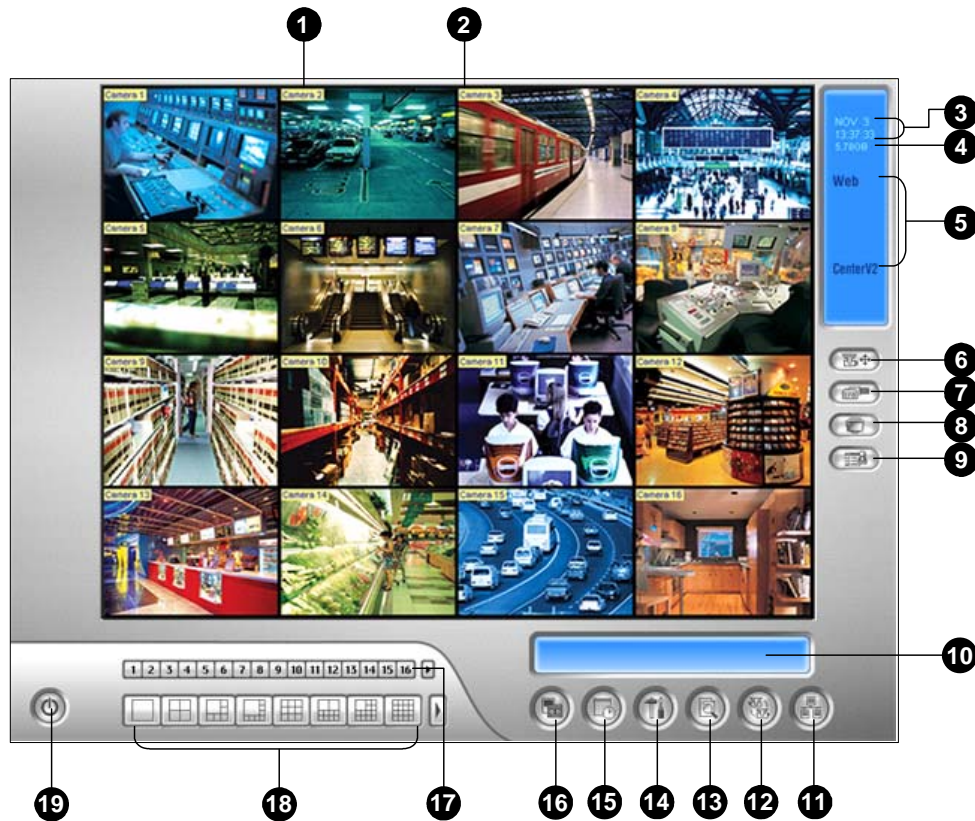

Figure 1-2
To set up cameras on the GV-System, click the **Configure** button (No.14, Figure 1-2), select **System Configure** and click **Camera Install**.
To start recording, press **[F7]** on the keyboard, or click the **Monitor** button (No. 16, Figure 1-2) and select a camera. By default, every camera records with the following settings:
- To instantly play back the events of one single channel, click on the **Camera Name** (No. 2, Figure 1-2), and select the time length.
- To instantly play back the events of all channels, click on the **ViewLog** button (No. 13, Figure 1-2), select **Instant Play**, and select the time length.
Let's start with the options on the General Setting dialog box. Changes made on the **General Setting** dialog box would apply to all available cameras attached to the system. Click the **Configure** button (No.14, Figure 1-2), select **System Configure**, and click **General Setting** to access the following dialog box.
Click the **Configure** button (No. 14, Figure 1-2), select **System Configure**, and select **General Setting**. In the General Setting dialog box, you can see the storage information in the middle as illustrated below.